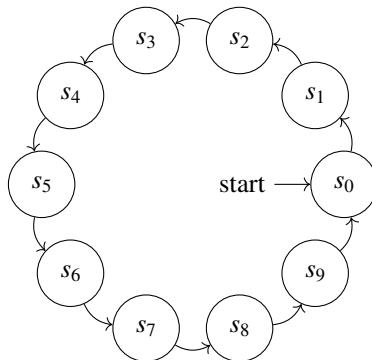

Fig. 6.1: FSM for the decade counter
1. Fig. 6.1 shows a *finite state machine* (FSM) diagram for the decade counter in Fig 5.2 s_0 is the state when the input to the incrementing decoder is 0 The *state transition table* for the FSM is Table 3.5, where the present state is denoted by the variables W, X, Y, Z and the next state by A, B, C, D .
For the FSM in Fig 6.1, the number of states is 9, hence the number flipflops required = 4